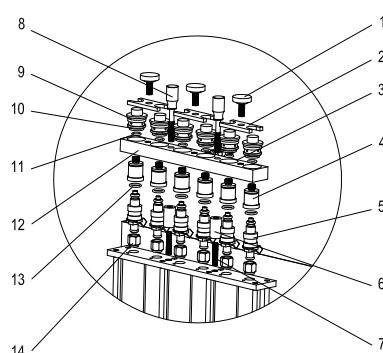

Fig. 07
- Install the fuel distributor and the injector on the fuel distributor supporter with a proper adjustable screw and knurled nuts, and tighten two rifle screws (black). See Fig. 07.